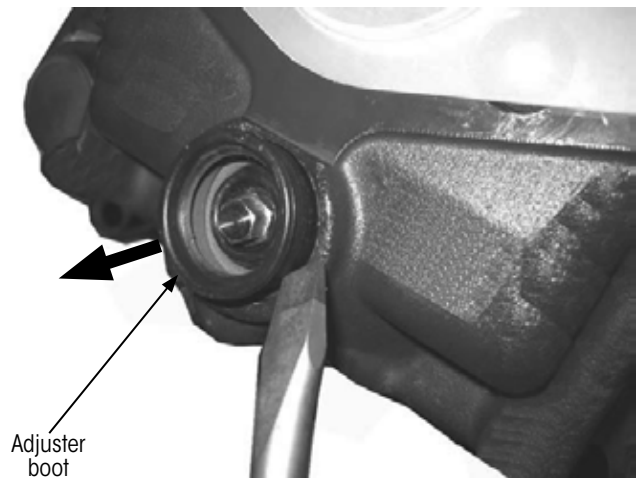

Figure 84: Removing adjuster boot
2. **Use** a suitable tool (e.g. screwdriver) to remove the adjuster boot (Figure 84) out of the brake caliper seat.